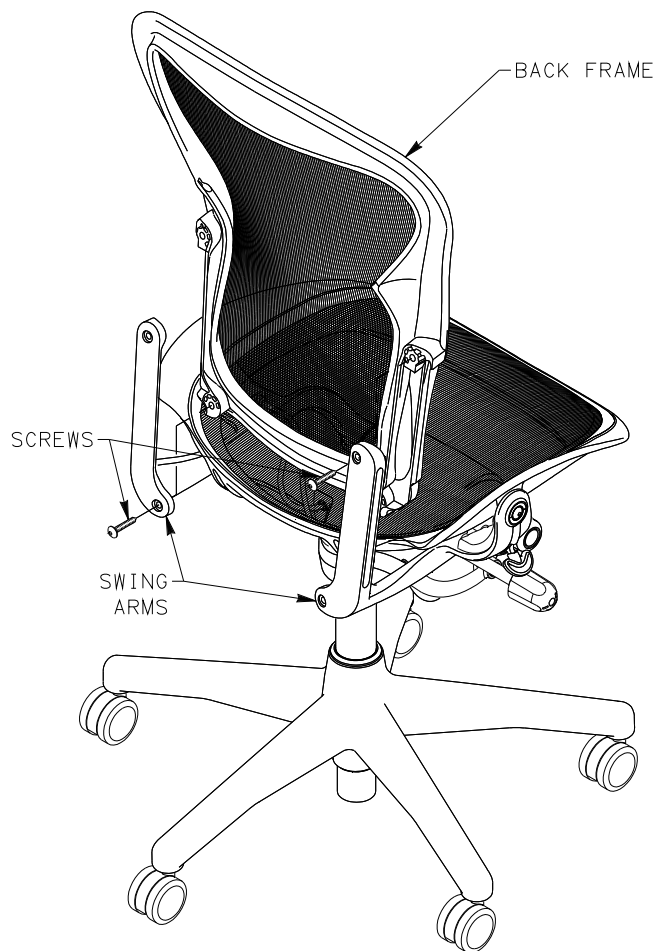

FIGURE 2
3. PLACE REPLACEMENT BACK FRAME UP TO SWING ARMS ALIGNING HOLES. SECURE WITH SCREWS. TIGHTEN AND TORQUE SCREWS TO 70-100 IN-LB. SEE FIGURE 2.